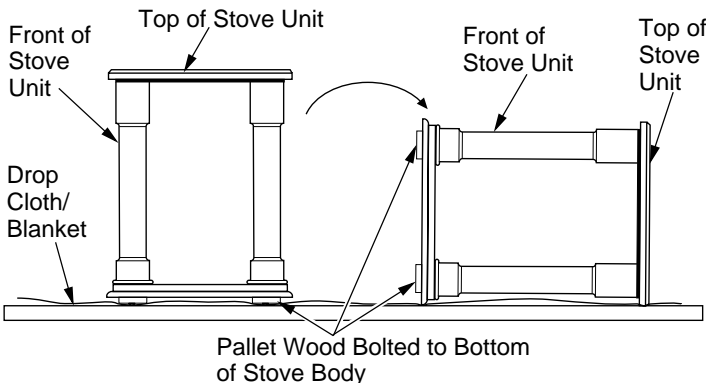

Figure 7 - Laying Stove On Side
- (1) - Hardware kit bag with fasteners
6. Carefully lay stove body on back to attach bottom components to stove body (see Figure 7). Rest stove on drop cloth or blanket to avoid scratching stove edges.